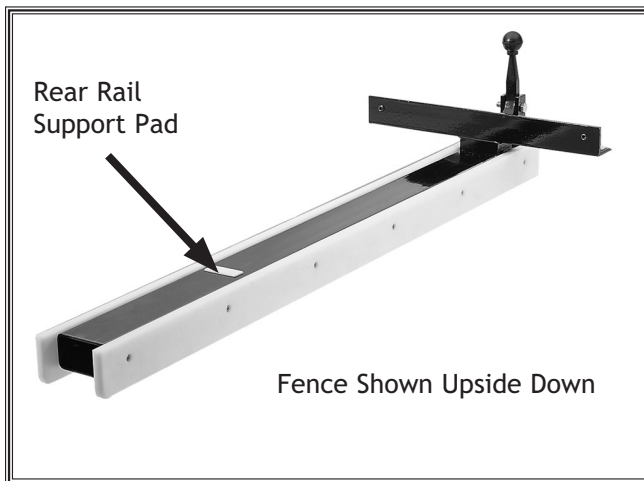

Figure 5. Rear rail pad location.
4. Make sure you keep the rail support pad free of debris and dirt. This pad is pre-positioned so that it slides along the top of the rail or the top of the table. The rear rail support pad is located on the underside of the fence. See **Figure 5**.